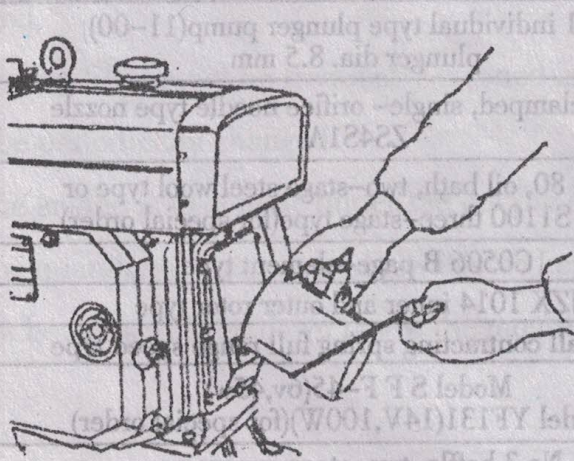
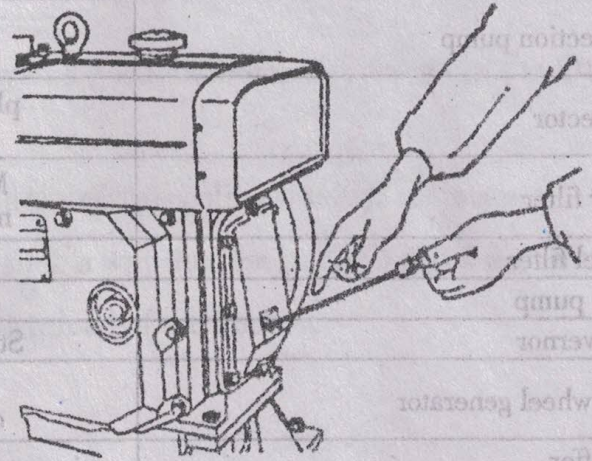

Fig. 1 Pouring oil into the crankcase
Fig. 2 Measuring oil level in the crankcase by means of a dipstick
2. Take the dipstick out of the crankcase and pour clean oil into it (Fig. 1). The quantity of oil added is about 2.5 kg so that the oil level in the crankcase will lie between the two marked lines on the dipstick (Fig. 2).